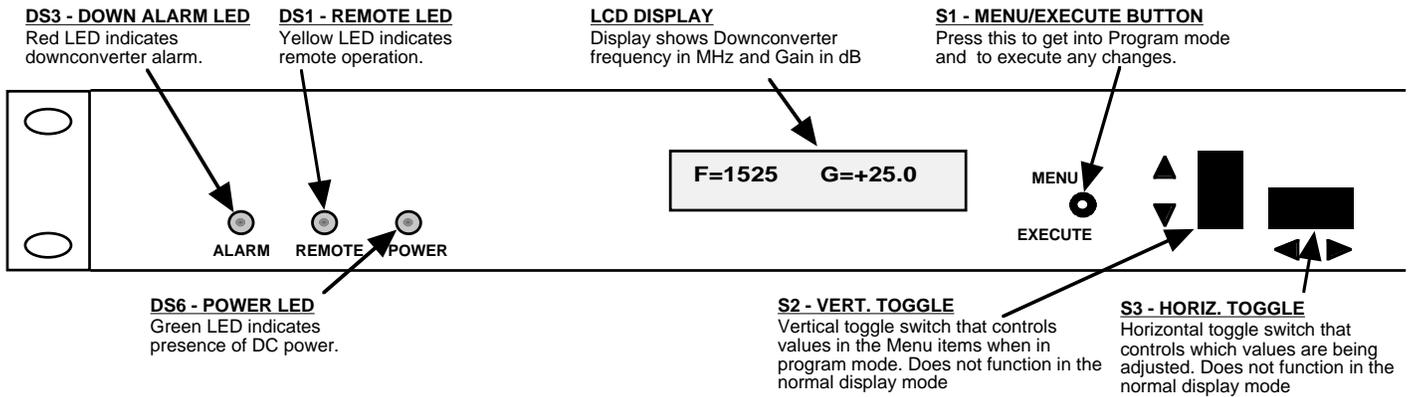

FIGURE 2.3 2016-05 Front Panel Controls and Indicators
6. Be sure DS6 (green, DC Power) is on and DS3 (red, Alarm) is off (Figure 2.3).
Alarm indications appear on the LEDs (see figure 2.3).